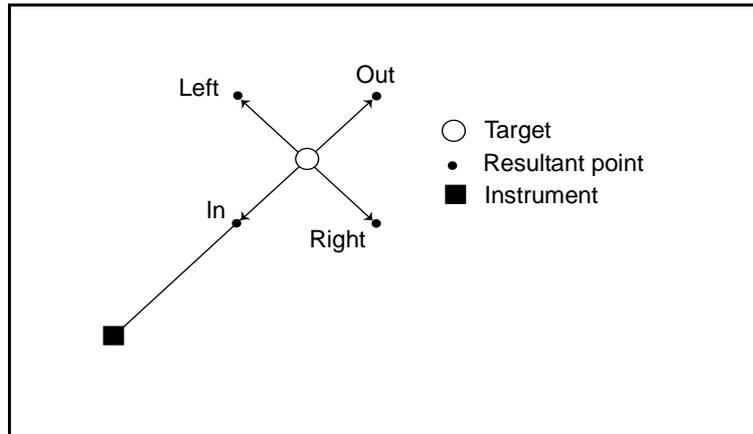

Figure 19.15 Direction options
6. In the *Direction* field enter the direction from the target (prism) point to the object to be measured. Figure 19.15 shows how the directions are defined.
If you are operating a robotic instrument remotely from the target, the left/right directions are reversed. However, the measurement is stored relative to the instrument position, as shown in Figure 19.15.